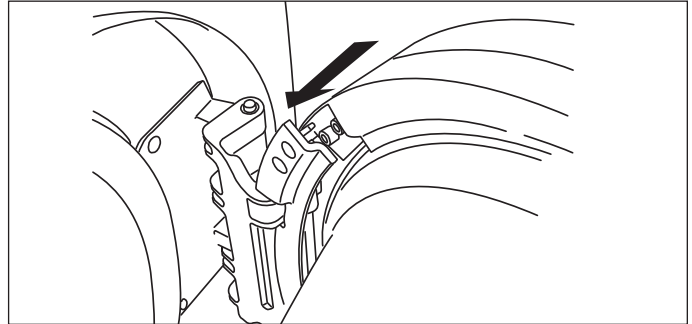

Figure 2-43.
2. Install the door onto the hinge locating pins. (See Figure 2-43)